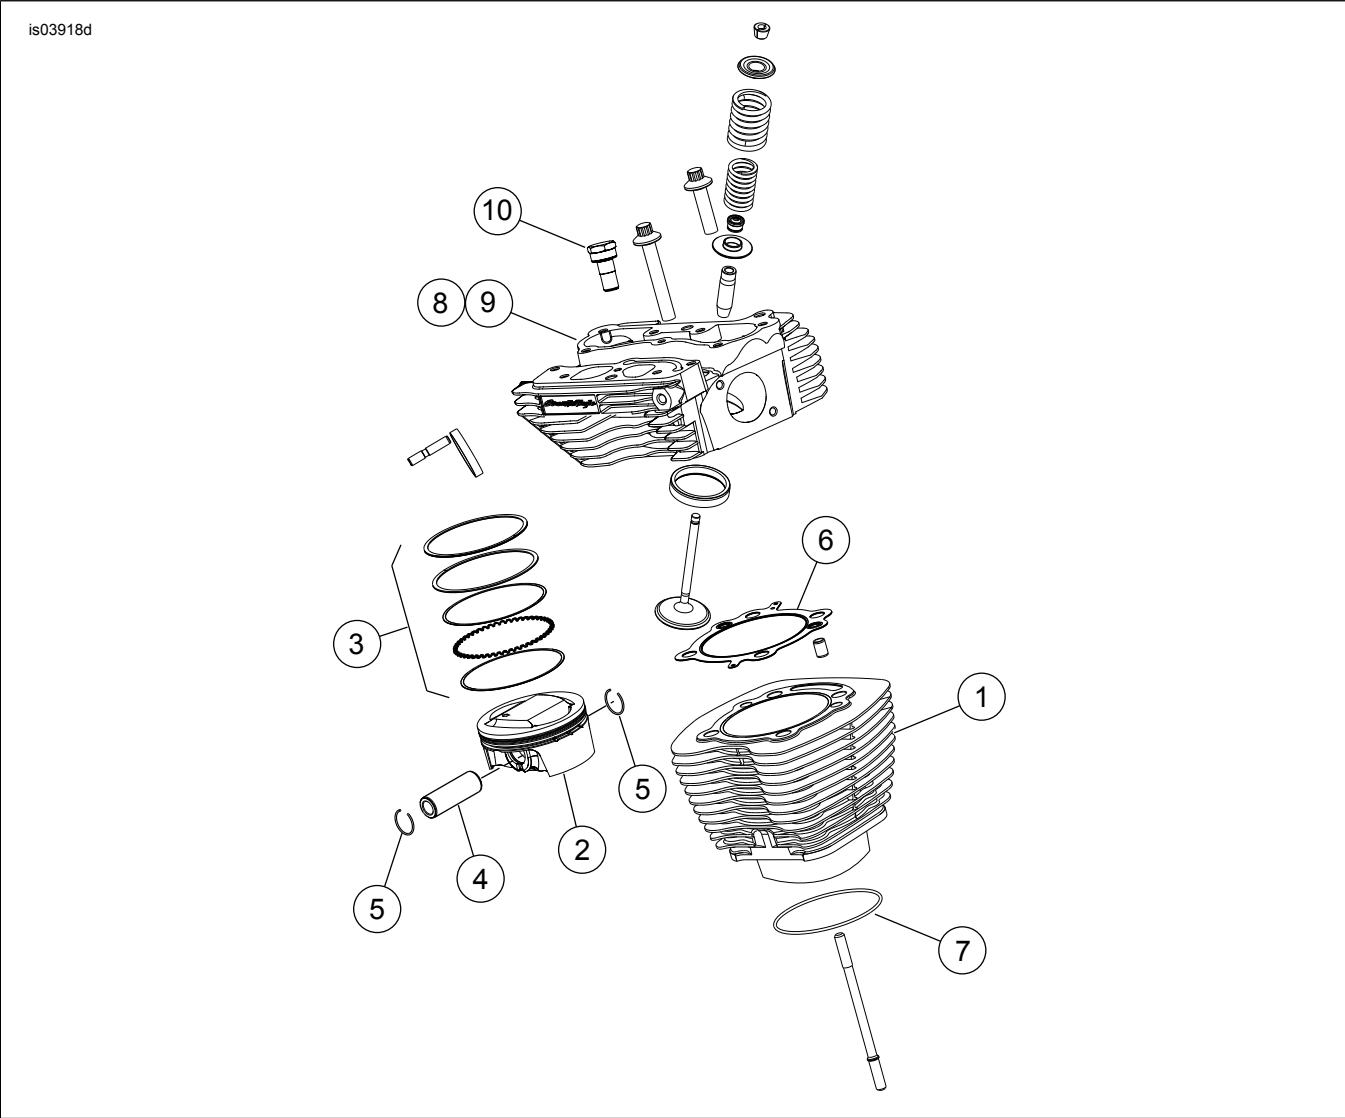
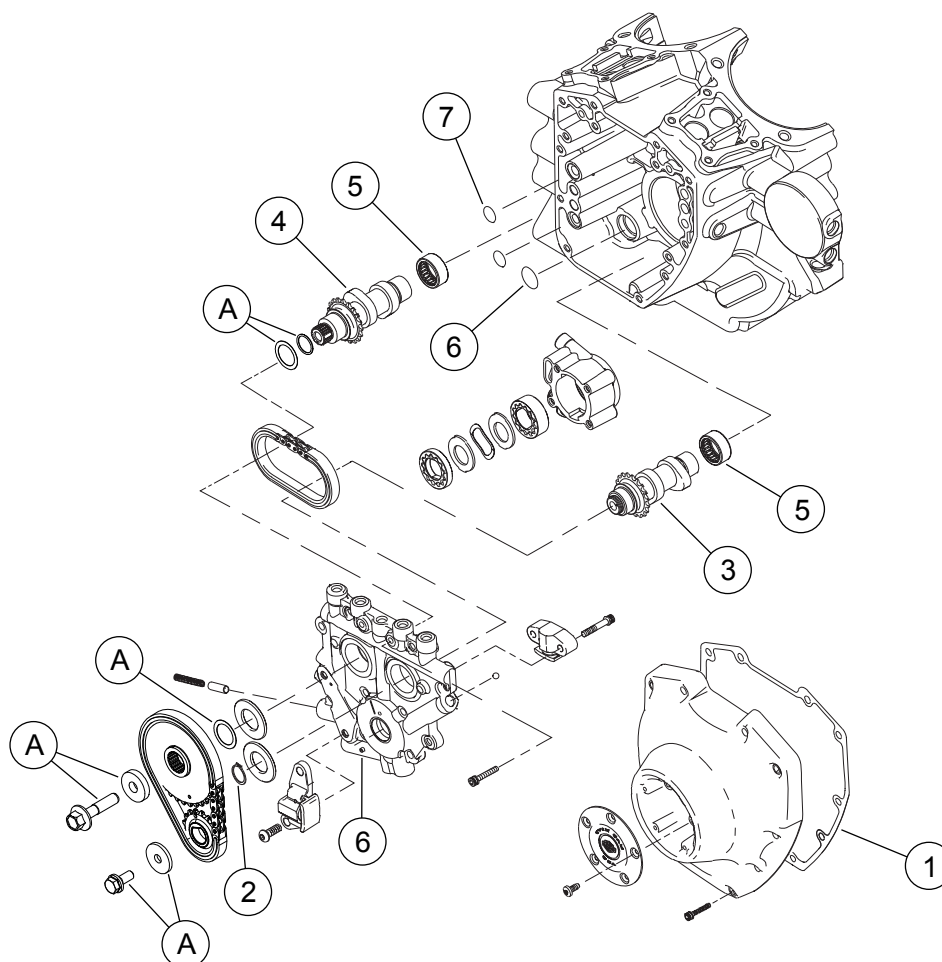

Figure 1. Service Parts: Screamin' Eagle Pro TC (96 ci to 103 ci) Stage 4 Kit
Figure 3. Service Parts: Screamin' Eagle Pro TC (96 ci to 103 ci) Stage 4 Kit
See Figure 1 to Figure 3, and Table 1 to Table 3.
1. See Figure 3. Inspect camshaft needle bearings (7) and replace if necessary.
2. See Figure 1 through Figure 3. Assemble cams to cam plate, performance cylinder heads and engine top end using parts from kit. Refer to appropriate ENGINE sections in service manual.